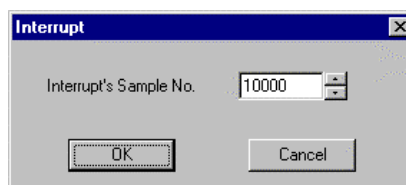

Fig. 4-23
- (4) Now measure the samples. If a sample table is not used, click the **Sample** button. To interrupt the measurement for other samples, click the **Interrupt** button. The window in Fig. 4-23 will appear, so enter a sample No.